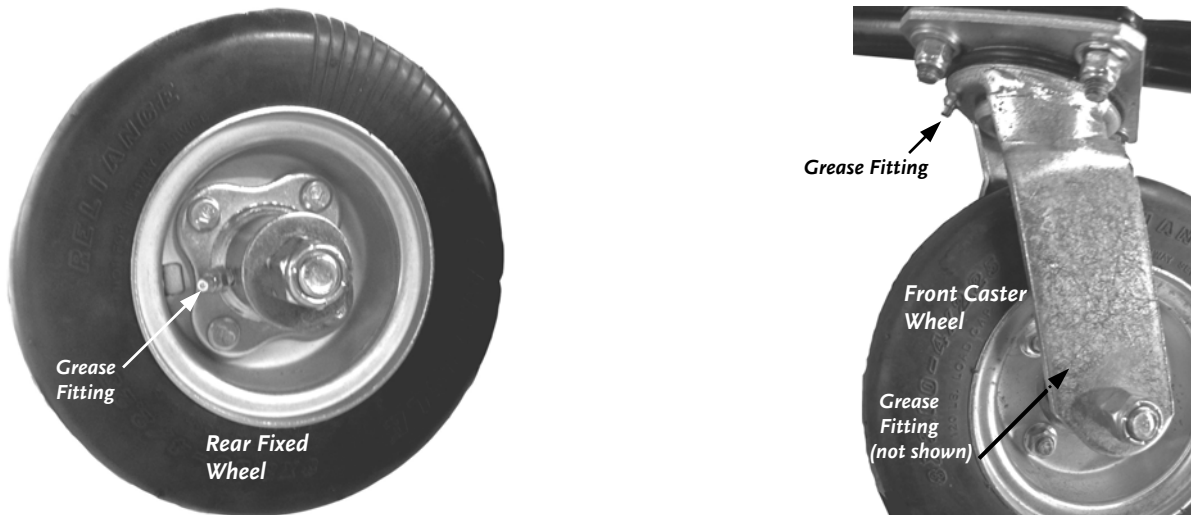

Figure 17
1. Lubricate the Rear Fixed Wheel, the Front Caster Wheel and Caster bearings at the grease fittings every 25 hours of operation (**Figure 17**).